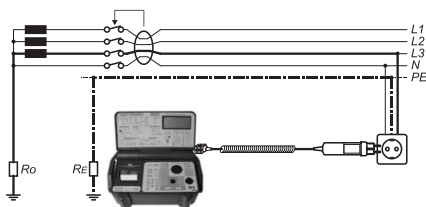

Figure 6.7.1 Connection of test leads
- ▶ Switch on UNITEST EURO EXPERT plus via switch "ON/OFF" (9).
- ▶ Set with the function switch to the desired range. You can choose between the voltages L-N and L-PE. Therefore set the function switch (1) to VL-N / RI/IPSC (1) or VL-PE / ZL/IPSC (2).
- ▶ Connect the test leads to instrument, measurement connectors (17).
- ▶ Connect the test leads with object see figure 6.7.1 or 6.7.2.
- ▶ Switch on UNITEST EURO-EXPERT plus via switch "ON/OFF" (9).
- ▶ Set with the function switch (1) to the desired range. You can choose between the voltages L-N and L-PE. Therefore set the function switch (8) to VL-N / Ri/IPSC (1) or VL-PE / ZL/IPSC (2).
- ▶ Connect the test leads with object see figure 6.7.1, 6.7.2 oder 6.7.3.